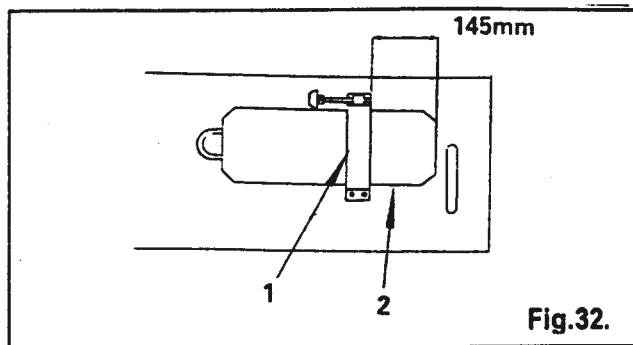

Fig.32.
Fasten knee lifter bracket (1) to underside of table (2) 145 mm from table cut-out as shown in Fig.32.